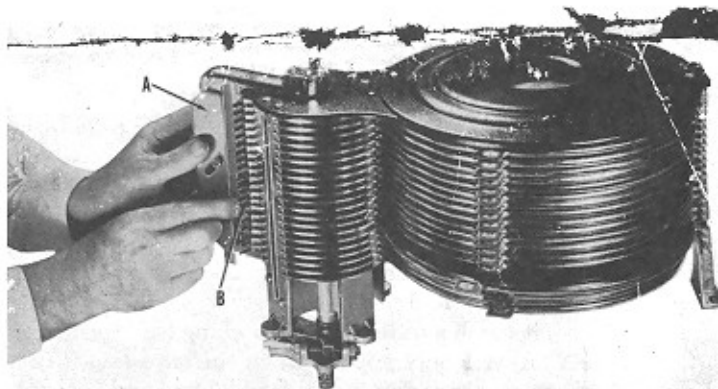

Fig. 5 – Tray Stack Assembly
1. Pull out tray release bar (A-Fig. 5).
2. Unhook tray unlocking dog (B-Fig. 5) to bring tray from stack.